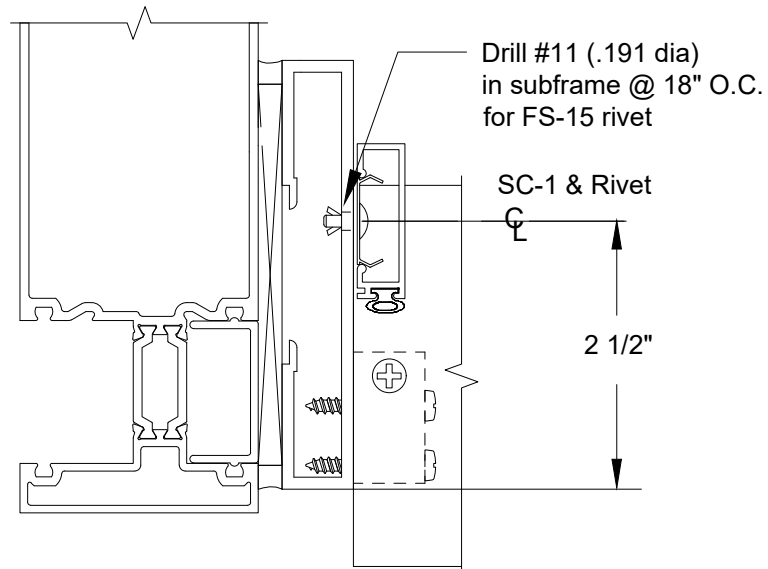

FIGURE 41
C.2.5 Drill #11, .191 diameter holes in D-186 subframe for FS-15 rivets. Install door stops onto subframe with SC-1 clips @ 18" O.C. Locate clips around the subframe anchor screws. **SEE FIGURE 41, Page 40.** Vertical stops run through.